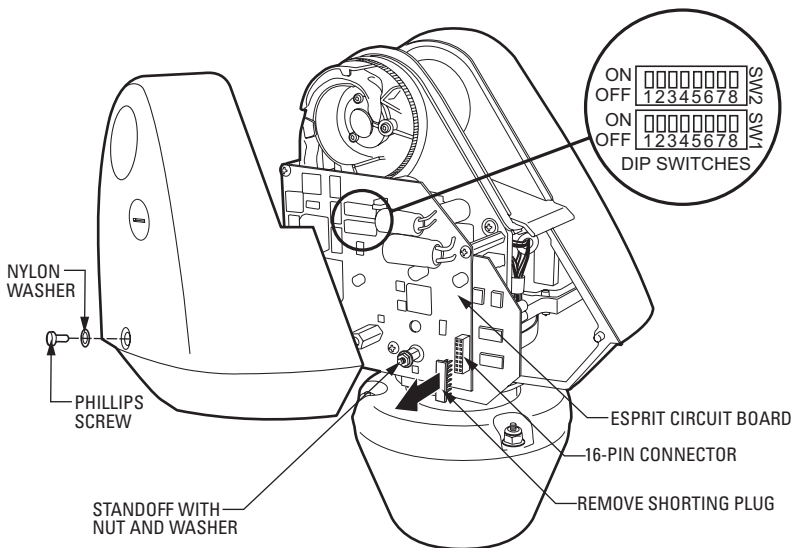

Figure 1. Esprit System
To install the TXB-V translator board in an Esprit system (refer to Figure 1):
8. Set the DIP switches on the Esprit system (refer to Figure 1 on page 6 for switch location):